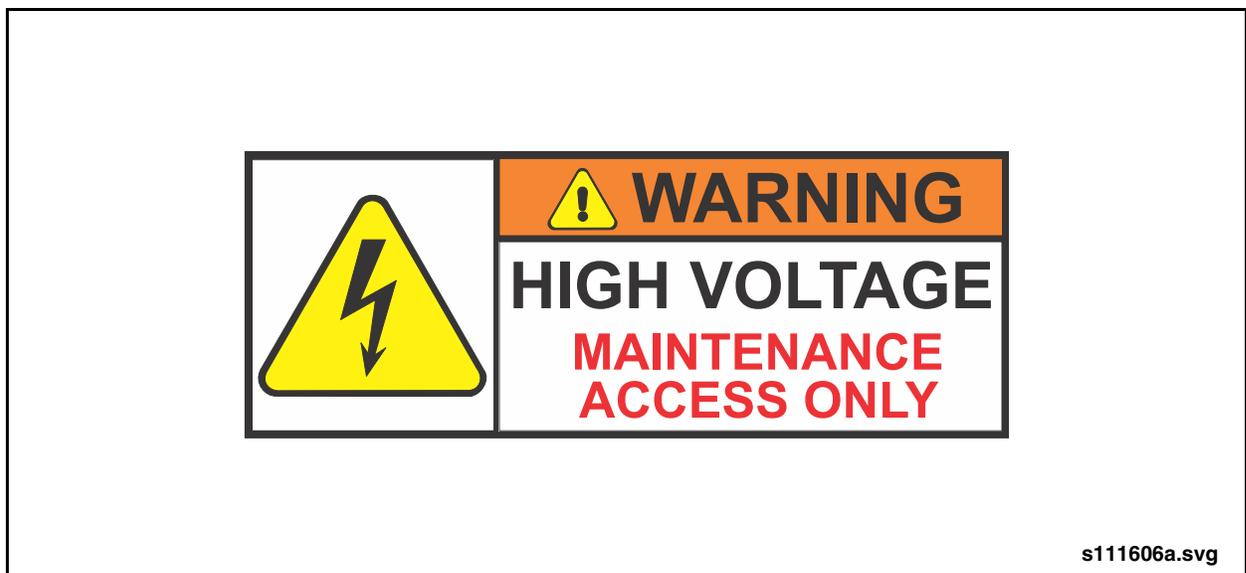

Figure 6: High Voltage Warning Label
The Electric Drive System uses potentially hazardous electrical energy. There is a risk of electric shock. Only trained service personnel should access components of the electric drive system. Failure to observe all high voltage (HV) electrical safety precautions may result in personal injury and/or death. All high voltage compartments and/or components are identified with High Voltage warning labels or symbols. See “Figure 6: High Voltage Warning Label” on page 21.